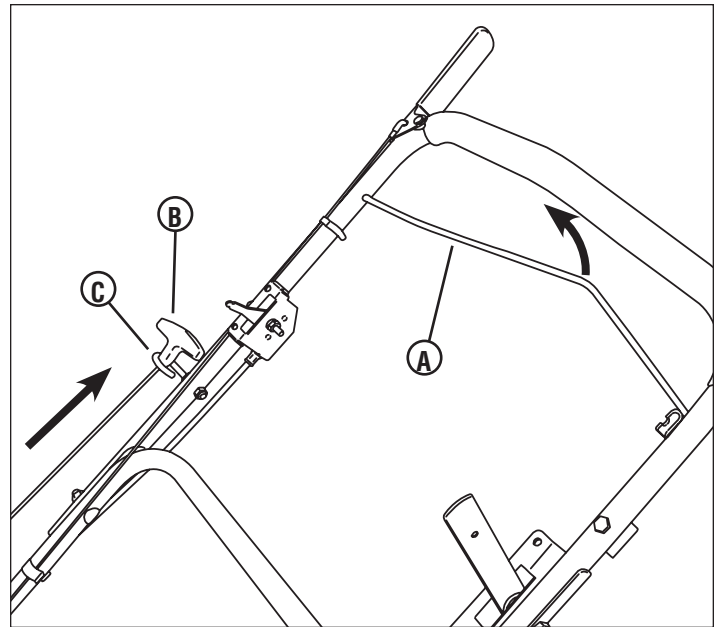

Figure 7
7. Squeezing the blade control (A, Figure 7) against the upper handle, grasp the engine recoil (B) and pull firmly past the recoil rope guide (C) on the right side of upper handle. Hook the recoil rope into the eye of the rope guide.